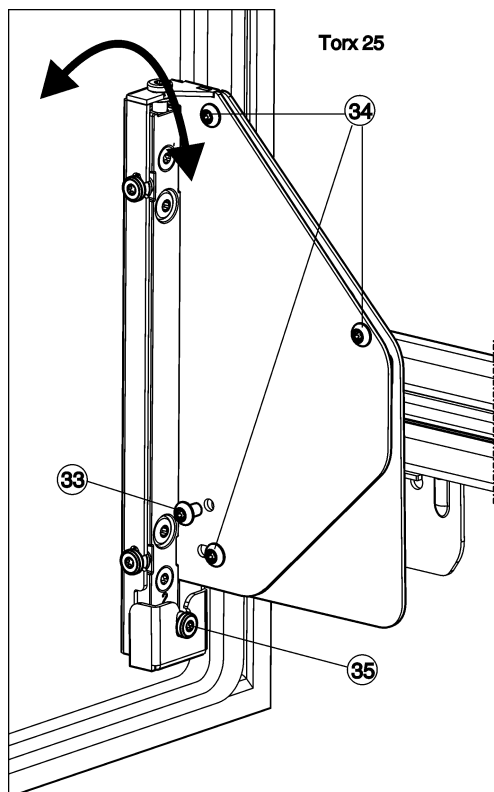

Fig. 26
- ▶ Unscrew and remove the screw Fig. 26 (33).
- ▷ Dispose of the screw Fig. 26 (33), it is no longer needed.
- ▶ Just loosen the screws Fig. 26 (34) by 1 to 2 turns.
- ▶ Turn the adjusting screw Fig. 26 (35). Clockwise: for inclination of the door away from the appliance body at the top. Anticlockwise: for inclination of the door towards the appliance at the top and away from the appliance body at the bottom.
- ▶ After having adjusted the inclination, re-tighten all the screws Fig. 26 (34).